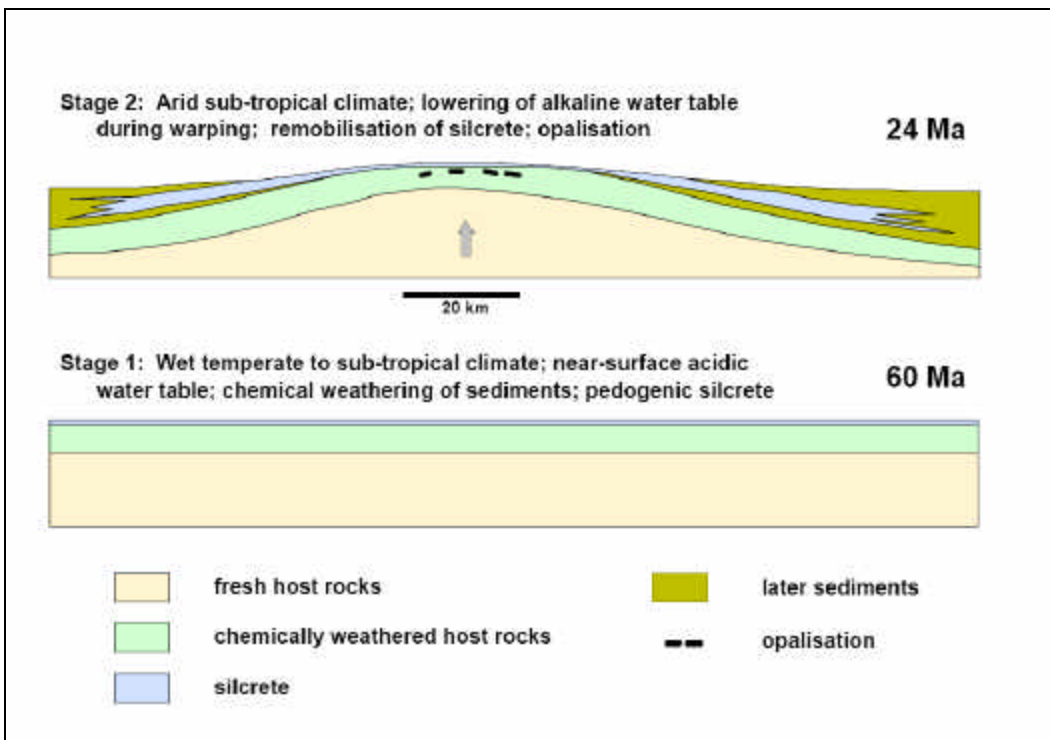

Figure 4: Model of Silcrete Formation and Opal Deposition / Preservation in Central Australia
It appears more than coincidental that Late Oligocene-Early Miocene tectonism is more or less contemporaneous with the main period of silcrete development. Several authors have independently noted that silcrete of this age is best developed on the crests and flanks of these surface anticlines and weakly developed or absent in the intervening synclines which are often sediment-filled. Weathering profiles which developed during this period also show a similar distribution with the best-developed profiles on anticlinal crests. The silcrete on the crests of the anticlines is dominantly pedogenic (e.g. Curalle Silcrete Surface) and that on the flanks is of groundwater origin (e.g. Haddon Silcrete Profile) (Figure 4). The groundwater silcretes often occur as multiple layers which are interpreted as being caused by lowering of the water table. That is, they are contemporaneous with folding.
- There is strong evidence of silica mobilization in and around anticlinal crests (as demonstrated by the deposition of groundwater silcrete adjacent to the anticlines) (Figure 4). Note that the gradients on these topographic highs are extremely slight. The steepest grades are of the order of 1 in 20 but commonly they may be 1 in 1,000 thus allowing for slow groundwater movement under arid conditions; an ideal situation for silica deposition.